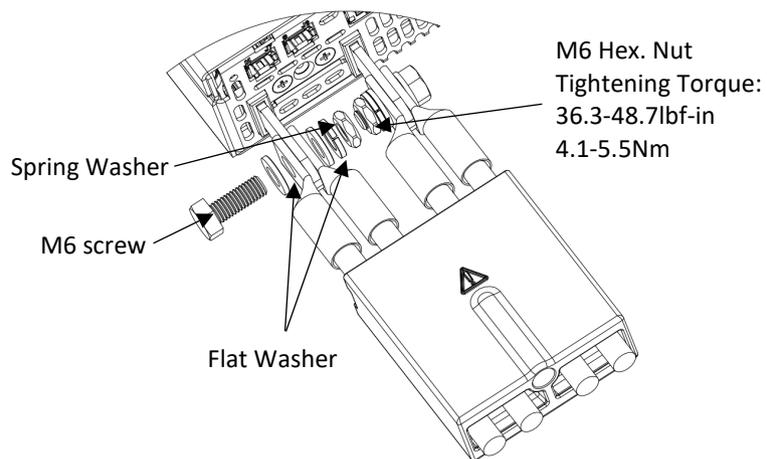

Figure 4-39: 10V Model Wires Assembly
3. Fix the wires to the Bus bars as shown in Figure 4-39.